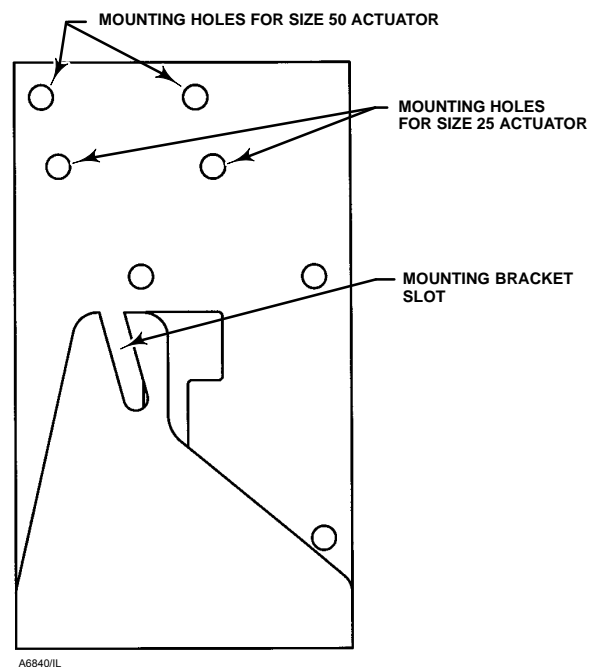

Figure 6. Positioner Mounting Bracket
10. Install the assembly from step 7 to the 585C or 585CR actuator by sliding the mounting bracket slot (see figure 6) onto the yoke leg cap screw. As you attach this assembly to the actuator, center the spring-loaded feedback arm under the feedback roller (key 175) on the stem bracket (key 195). Align the mounting bracket top holes (see figure 6) with the cylinder holes and install the remaining two hex head cap screws (key 196). Tighten all screws.
11. With the actuator still at mid travel and the top edge of the feedback lever assembly perpendicular to the actuator stem, install the adjuster assembly/roller in the appropriate stem bracket slot with the button head screw (key 173) so the roller (key 175) is centered over the correct actuator travel marked on the feedback lever assembly.